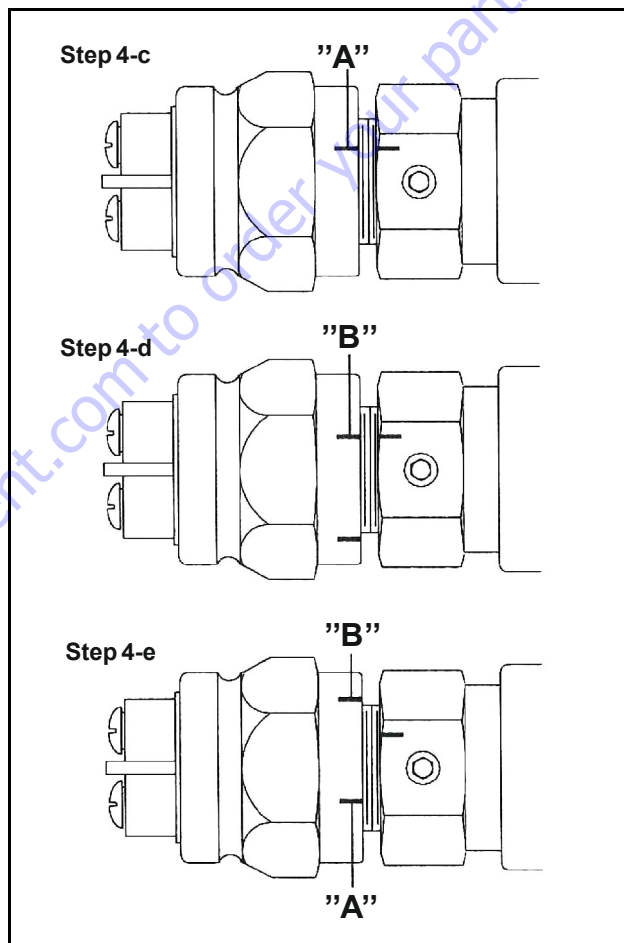

Figure 5-119. Neutral Lockout Switch Assembly
- c. Move the control arm out of the detent position. The test light will go on. Screw in the switch until the light goes off. Mark this as position "A". See Figure 5-119. Move the control arm to the detent position and the test light should come back on.
- e. Unscrew the switch one third of the distance between "B" and "A". Install and tighten the hex socket head set screw in one of the main quadrants of the hex of the switch adapter. See Figure 5-119. Torque set screw 2.3 to 2.8 in.lbs (3.2 to 3.8 Nm).